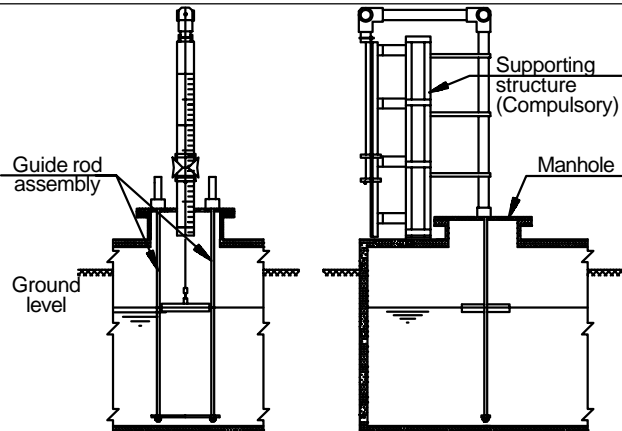

Fig. 10 Top of Tank Mounting with Guide Rod Assembly
The Open Scale Target Reading Type Level Indicator, 131 works on the principle of buoyancy. The level sensing part in the unit (guided or unguided float) is connected to the counter weight (indicator assembly) through SS cable (float cable). The indicator assembly rolls on the gauge boards graduated in terms of level (Refer above figure). Gauge boards of suitable length are supplied with the unit. For installation of the unit, three sockets or flanged nozzles (two for guide wires and one for float cable), supports for the gauge boards and bottom anchor are required. If the tank is metallic, the bottom anchor is to be welded. If the tank is of RCC, the bottom anchor is grouted. For horizontal cylindrical tanks of measuring range upto 3000 mm, normally guide rod assembly (instead of guide wires) is recommended. This arrangement is also suitable for underground tanks where, float assembly can be taken out through man hole. This arrangement is shown in the figure 10 on page no. 3.
- 3 For retrofitting on existing tanks guide rod arrangement (upto 3 meters) & weighted guide wire anchor arrangement (above 3 meters) are recommended (Refer figure 10 & 11 on page 3 for mounting arrangements).